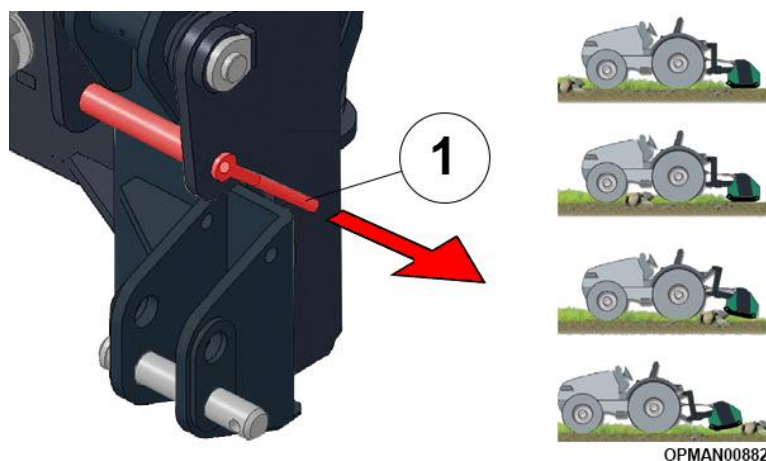

Figure 11
Sniper HD Offset machines feature a removable pin near the mounting point of the parallel arms to the headstock (Figure 11 (1)). It is important to remove this pin to allow the machine to float correctly and allow the machine to be able to follow ground contours more effectively, giving better operation and final finish of the cut material.